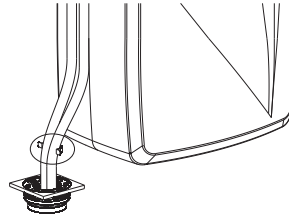

Figure 2
- 6) After the installation steps are completed according to 4), please confirm whether the bypass is in the service position (Figure 2). If the bypass is in the bypass state (Figure 3), please pull the push rod to the service position (Figure 2).
In case of equipment failure or other special circumstances, the bypass valve of the machine can be adjusted to the bypass state (push the pull rod to the service position in Figure 3 or confirm whether the bypass is in the service position in Figure 5). You can use municipal water supply directly temporarily. After the failure or problem is eliminated, adjust the bypass valve to the service position (push the pull rod to the state shown in Figure 2 or confirm whether the bypass is in the service position in Figure 4) to restore soft water supply.